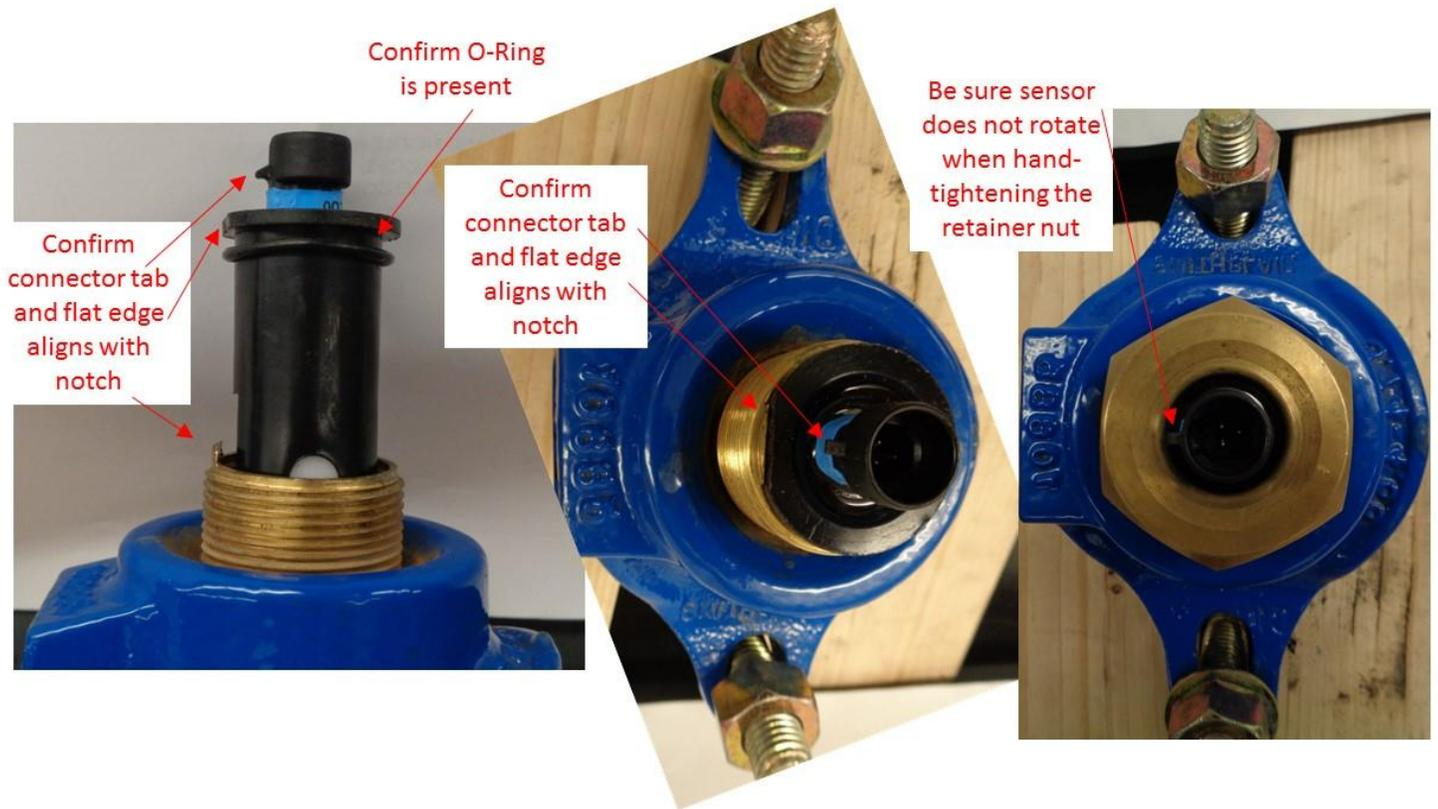

Figure 62. Flow Sensor Alignment
8. Insert flow sensor into sensor housing. Align flat spot on sensor rim with alignment tab and make sure O-ring is in its groove. Refer to Figure 62.